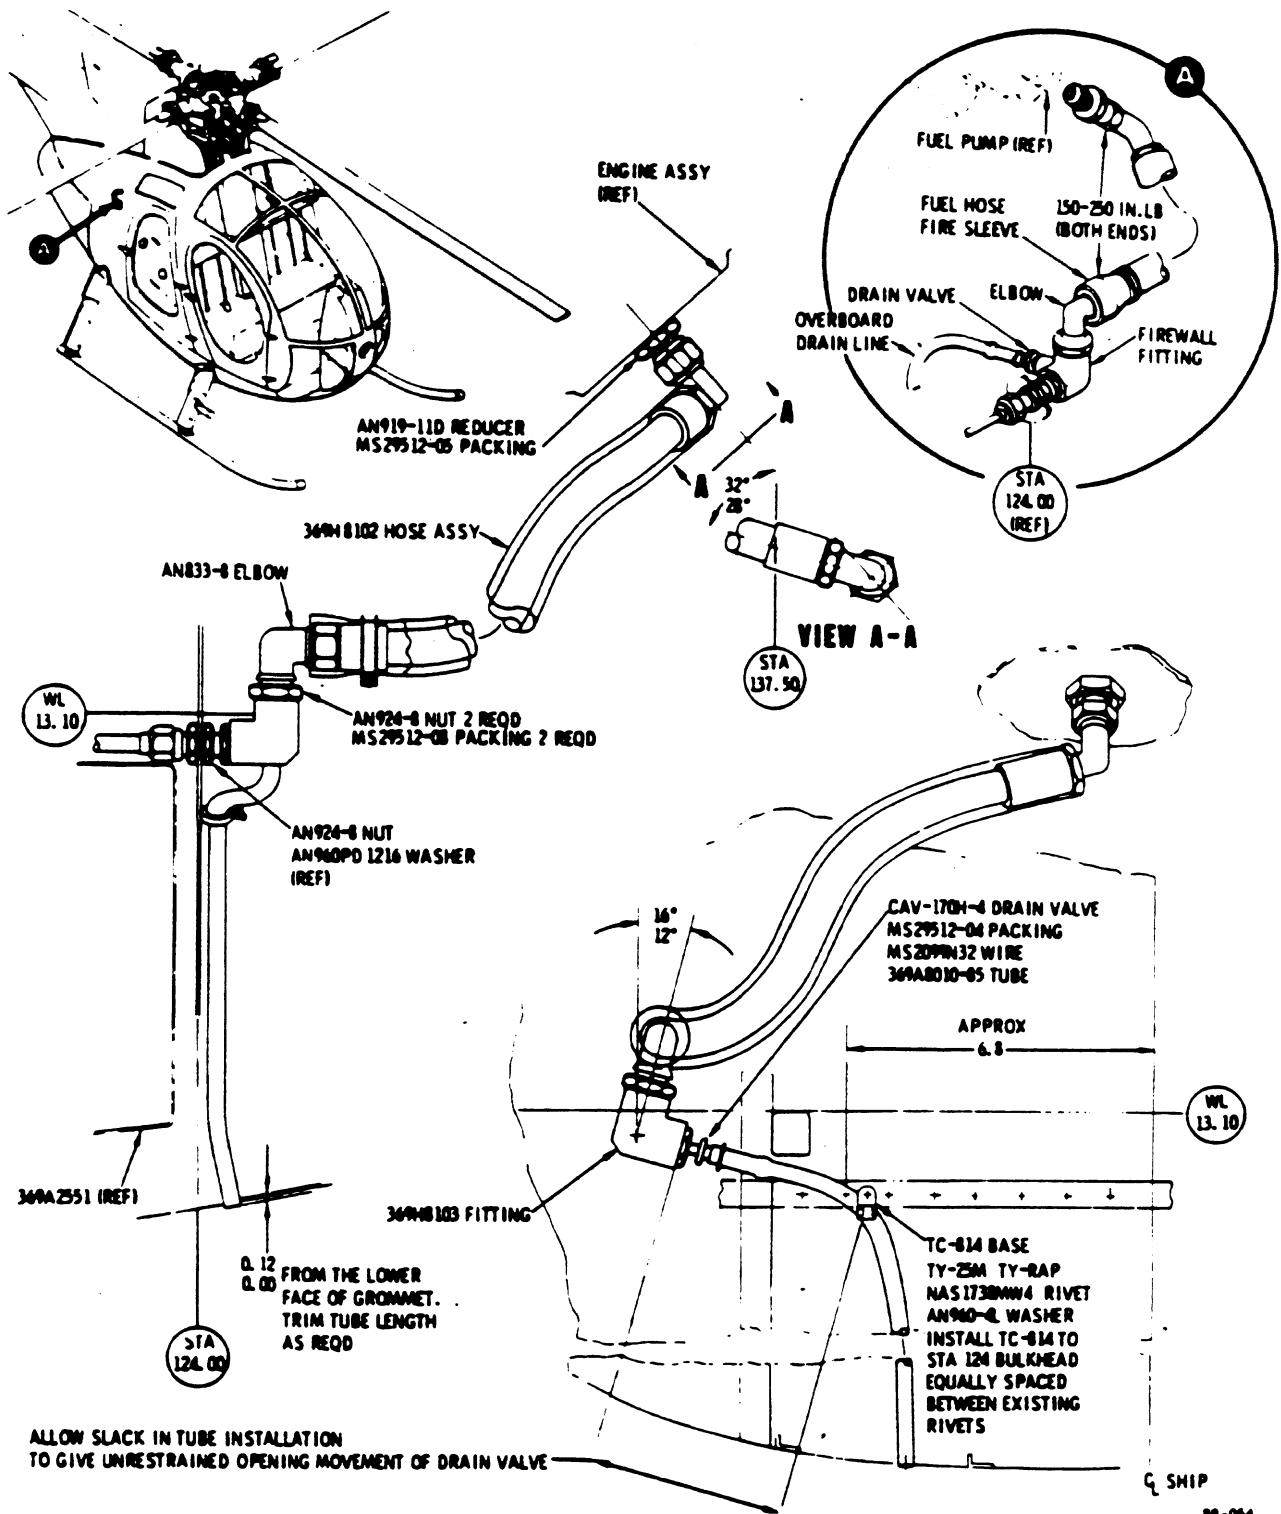

Figure 1. Relocation - Engine Fuel Supply Hose, Fuel Pump to Firewall
- g. Remove clamps on coupling and hose assembly and slide fire sleeve down away from engine pump; unscrew coupling halves (See Figure 1).